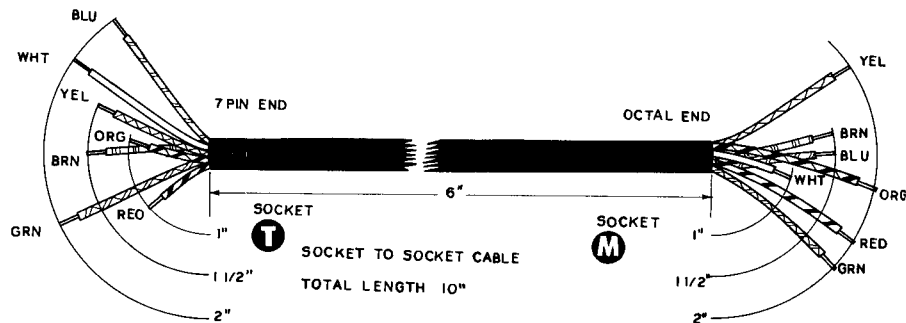

Figure 8B
- () Prepare the 10" length of cable as shown in Figure 8B. Again trim all leads to the proper length, strip and tin. Note that the black wire has been completely removed from the cable.